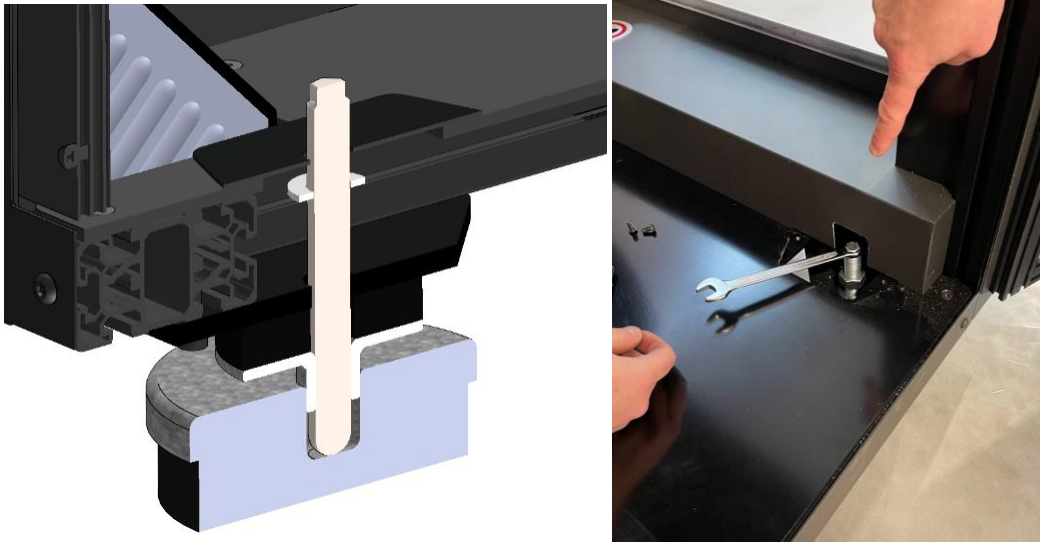

Figure 14a (Adjustable machine feet)
- Then adjust the feet until the machine stands straight. The feet are adjustable by a screw from its' top side, rotating clockwise will further push the foot downwards. There is a nut on the screw which must be loose during the adjustment process and which must be tightened after the process. See figure 14a for a cross section of the foot.